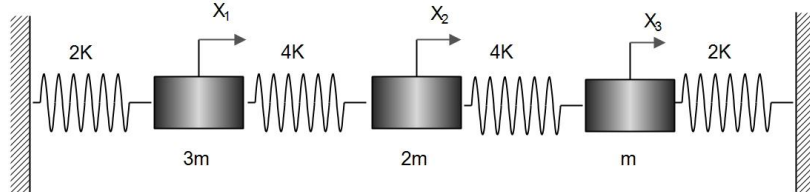

Figure 3
- 5C. Determine the natural frequencies of the MDOF system by Stodola method shown in figure3. Perform at least three iterations. (05)